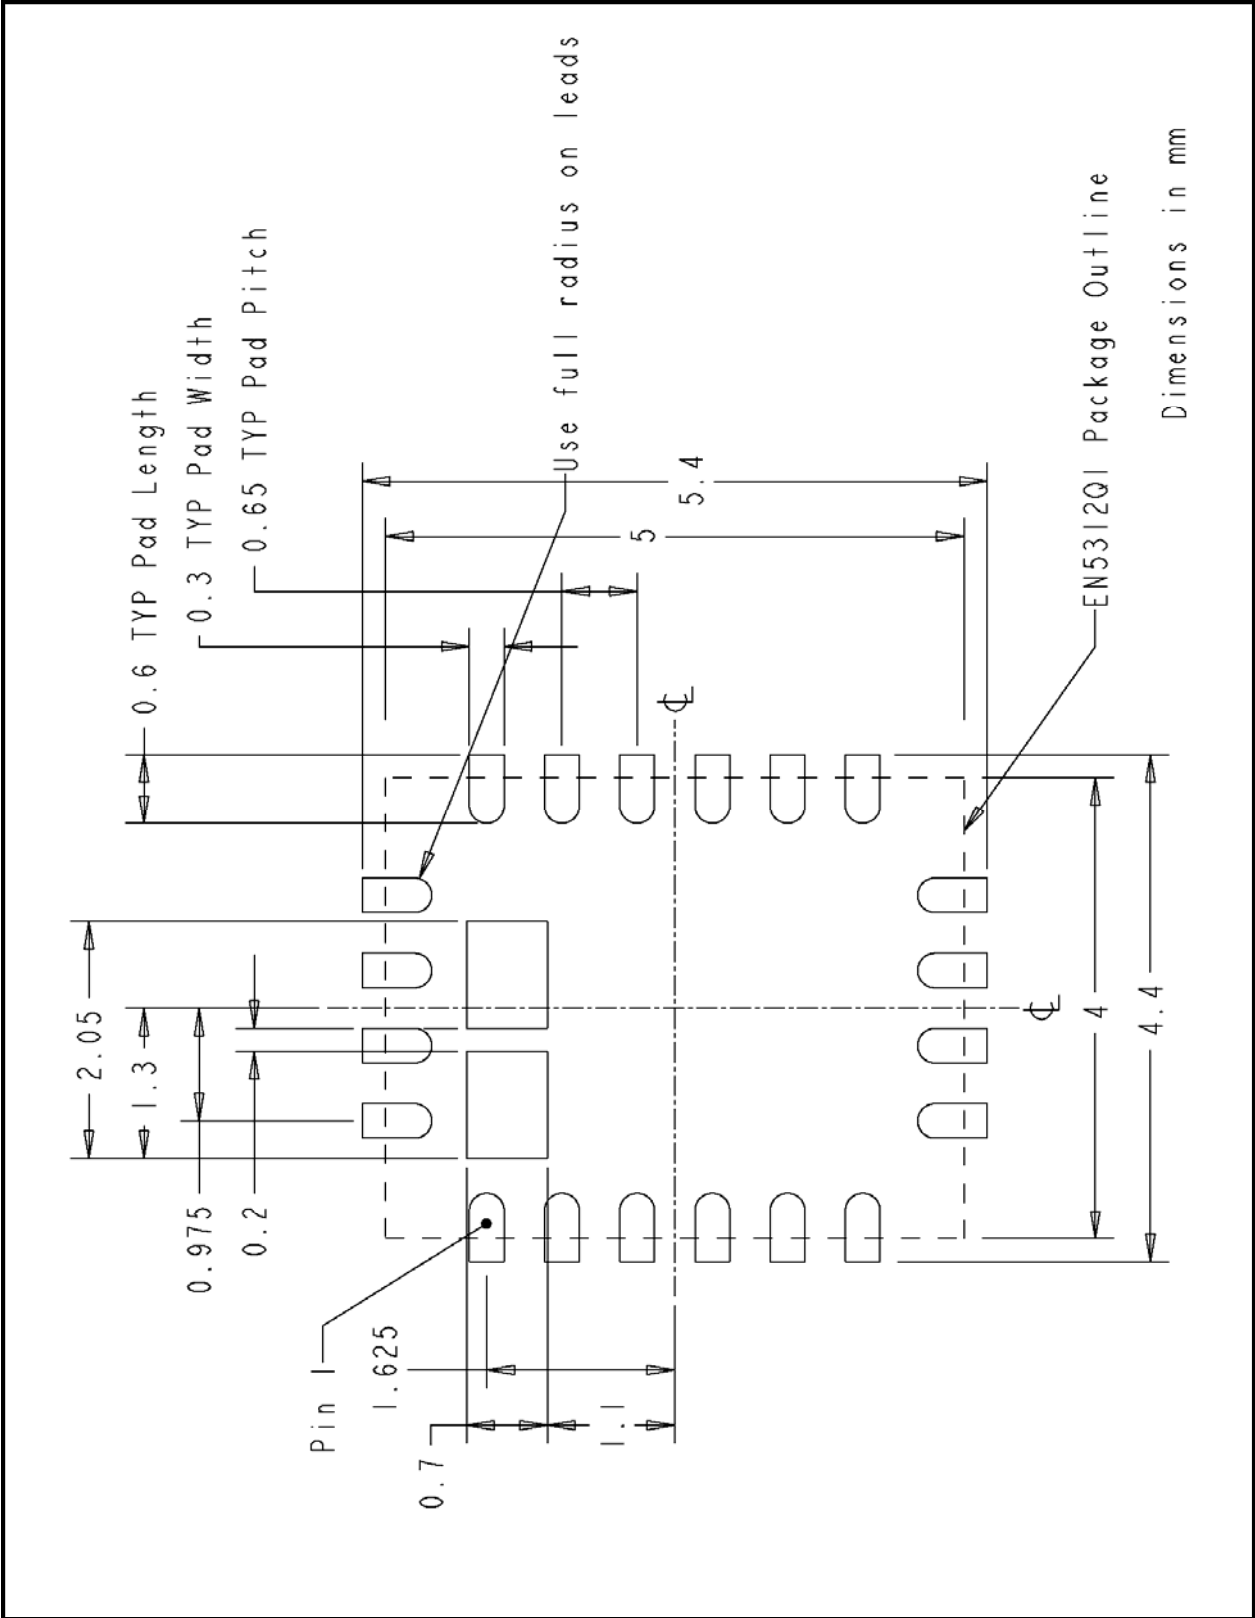

Figure 5 Solder stencil aperture layout for the EN5312QI QFN package
Figure 5 shows the solder stencil aperture layout for the EN5312QI QFN package.
- If open through-hole plated vias are used in the PCB GND pad then the stencil aperture opening should have a size ratio of 0.95:1. Note: the quantity and diameter of the vias will determine the amount of solder that will flow into the vias during reflow reducing the solder volume between the EN5312QI GND pad and the PCB GND pad. The solder stencil aperture layout should use one large aperture opening for the GND pad with dimensions as shown in Figure 5.
- If plugged and capped through-hole vias are used in the PCB GND pad then the stencil aperture opening should have a size ratio near 0.50:1. Note: less solder paste will be required since the vias will not fill with solder during reflow. The solder stencil aperture layout should use two small aperture openings (known as a window pane solder stencil aperture) for the GND pad with dimensions as shown in Figure 5.